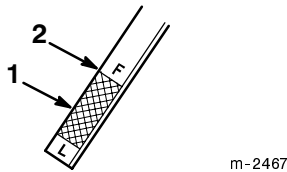

Figure 46
7. Pull the dipstick out and look at the metal end (Fig. 46).